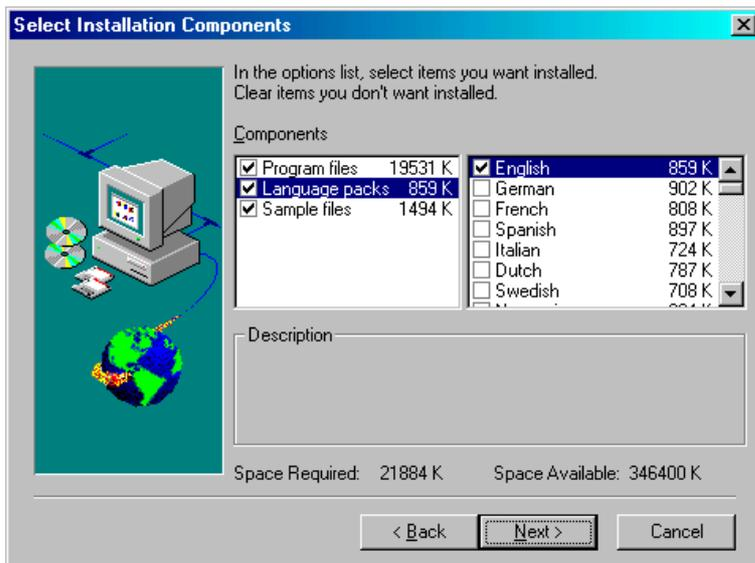

Figure 18: Installing TextBridge Classic
6. Select 'Custom' and then click on 'Next'. Figure 18 will appear.